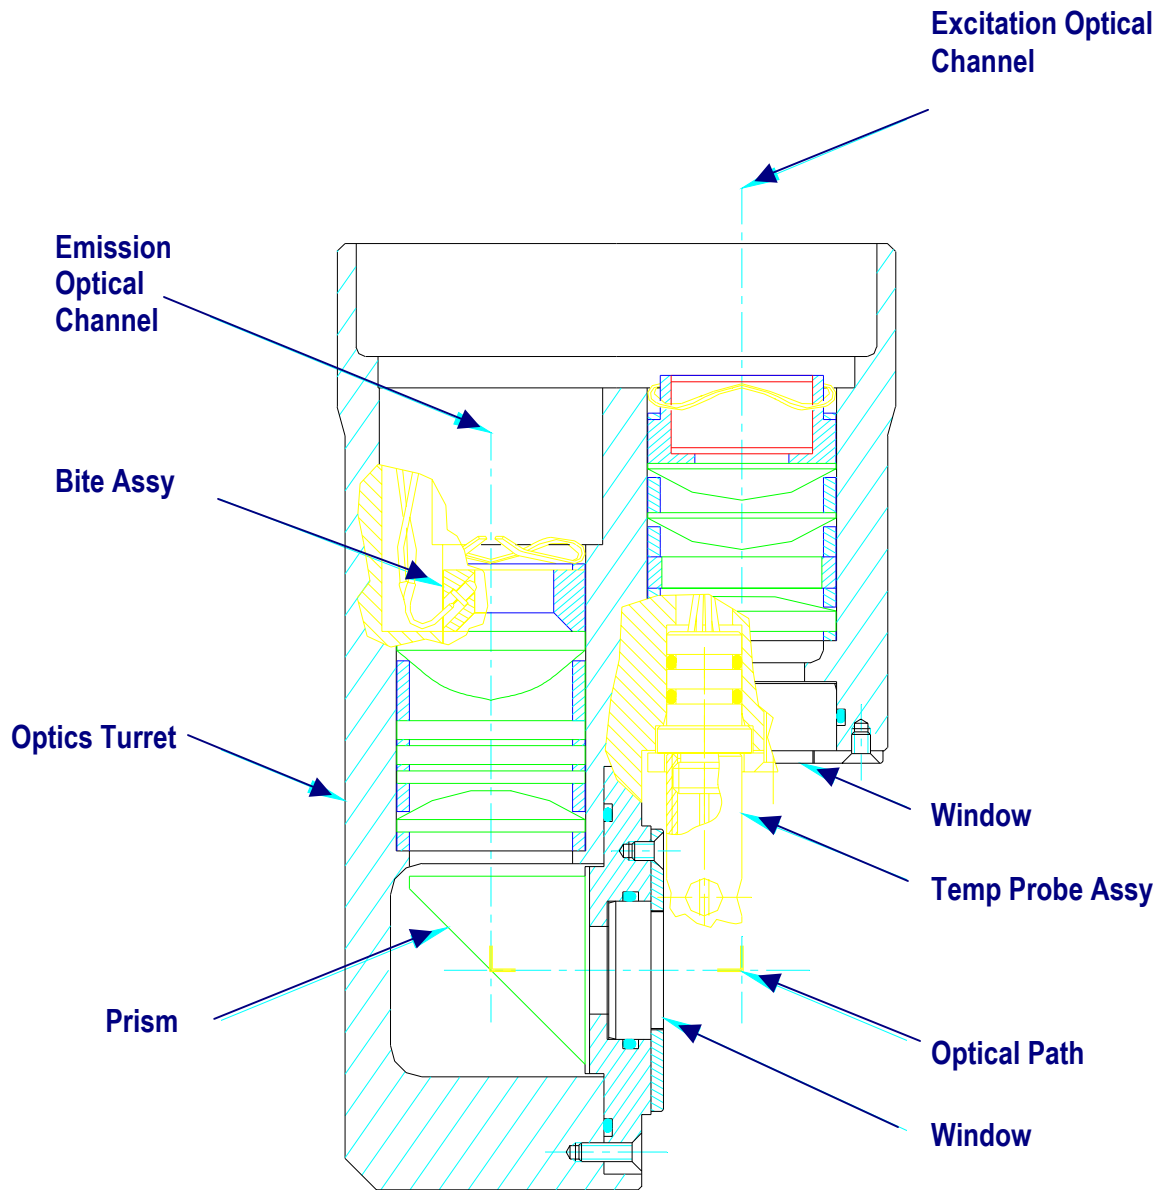

Figure 3 - Optical Layout
1. The turret assembly that houses the optical components and windows and makes up the front cap of the pressure housing. The assembly has two plain bores machined parallel with the length of the body, for the excitation and detection (emission) optics. The optical layout is shown in Figure 3. The optical components consist of a series of lens and filters on the excitation side and lens, filters and a prism on the emission side. These are held in their correct axial positions by a set of spacers.